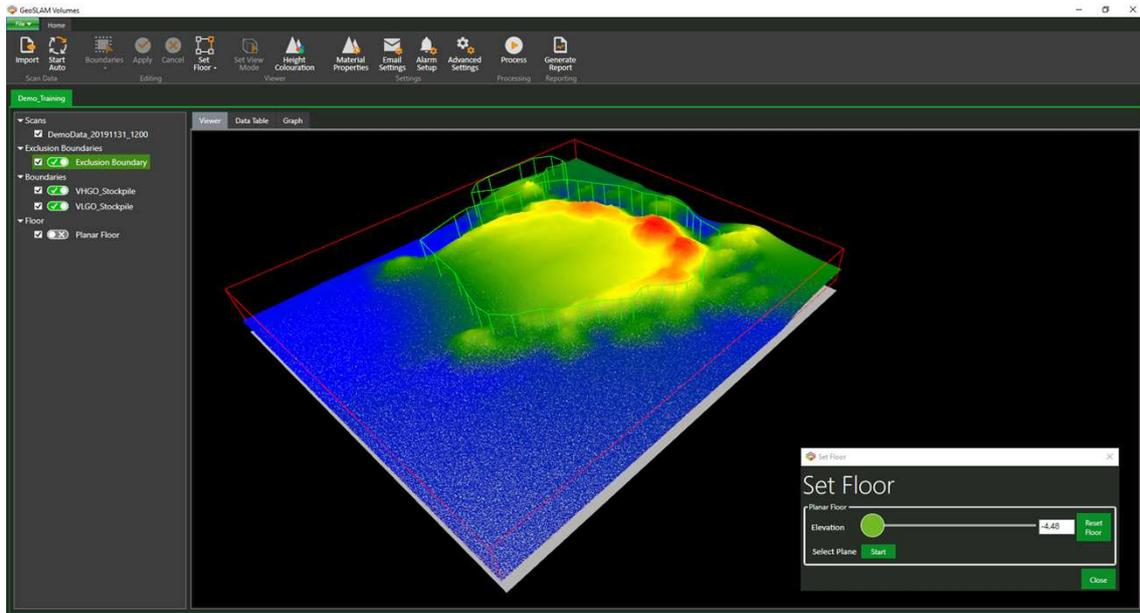
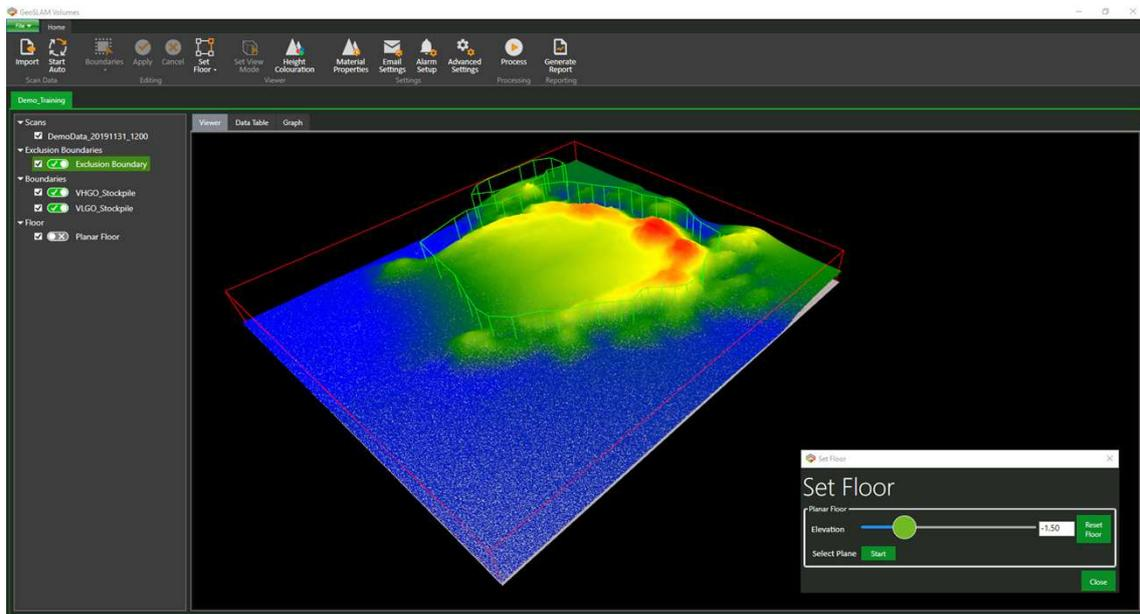
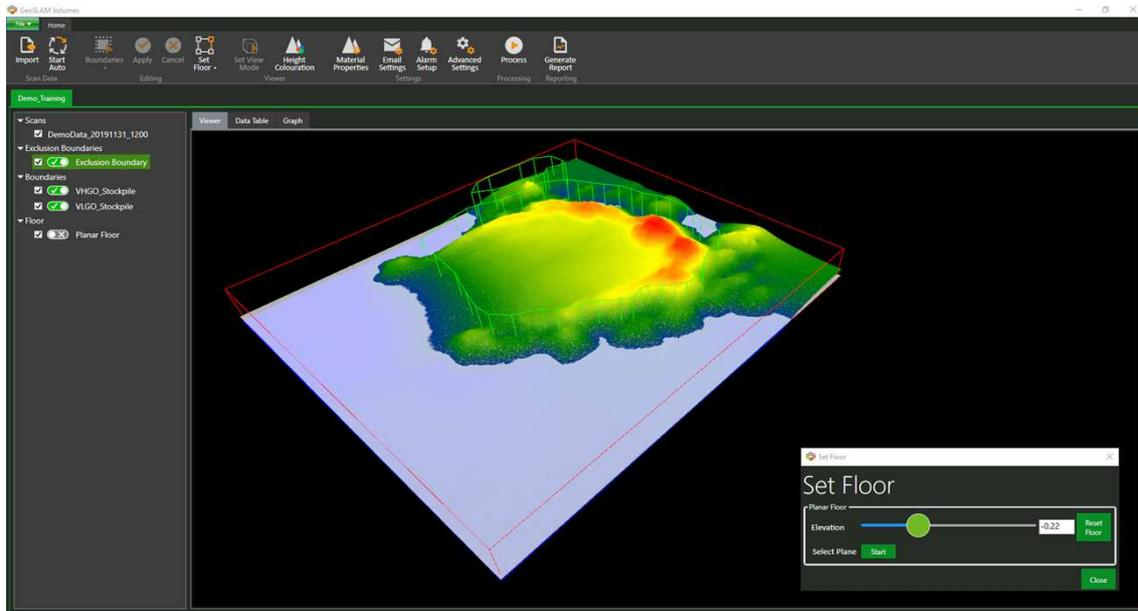

Figure 69. Floor level manually defined to a level below the lowest point in the data.
Figure 70. Automatically defined floor height set at the lowest data point.
Figure 71. Defining the floor at a user defined level using the slider bar / input box.
- a. Allow the software to define a horizontal plane at a value lower than the lowest point in the data (Figure 69).
- b. Select – **Reset** -> to define the horizontal plane at the lowest value in the point cloud (Figure 70).
- c. Select -> **Slider** or *Input* -> user defined value to define the horizontal plane at an arbitrary level (Figure 71).
The new floor will be visible in the *Floor* category in the project tree (Figure 69, Figure 70 and Figure 71).